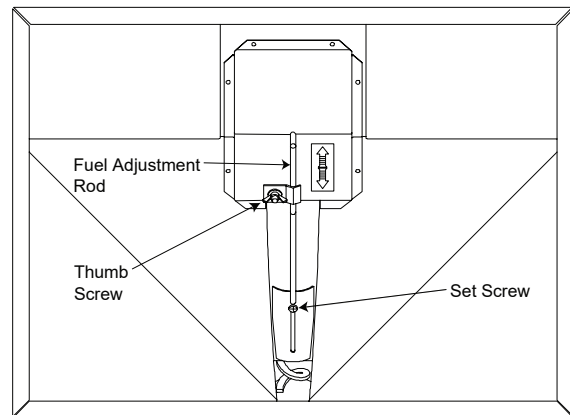

Figure 11.1 - Example
The feed adjustment control rod is factory set, and should be adequate for most fuels. The set screw is located at the bottom of the hopper and set loose at the factory so the fuel adjustment control rod will slide by only loosening the wing nut (**Figure 11.1**). Do not re-tighten bottom set screw.
1. Loosen the wing nut (**Figure 11.1**).